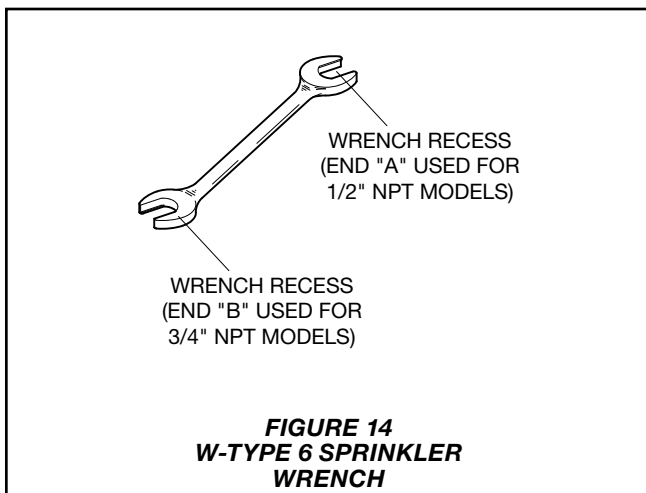

FIGURE 14
Step 3. Tighten the sprinkler into the sprinkler fitting using only the W-Type 6 Sprinkler Wrench (Ref. Figure 14). With reference to Figure 1 to Figure 5, apply the W-Type 6 Sprinkler Wrench to the sprinkler wrench flats.